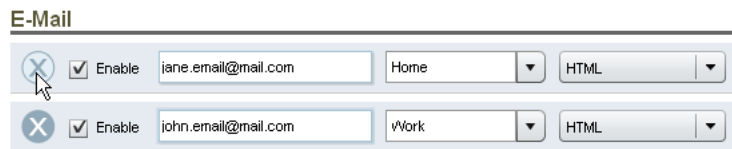

FIG. 137 Deleting an Email Contact
2. Click the "X" button to delete a contact (FIG. 137). Note that this action also removes the row from the display, so that it is no longer visible.